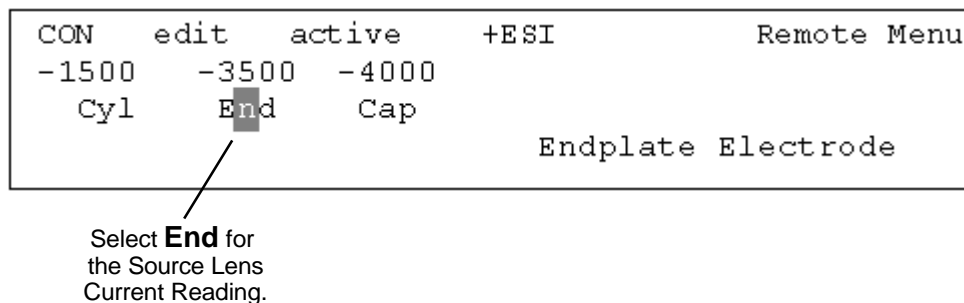

Figure 3-4 Setting the Source Lens Current Reading
9. Use the arrow button below the LCD display to position the display cursor on **End** (Figure 3-4) so that the Source Lens Current gauge on the ESI Source reads the current on the **Endplate Electrode**.